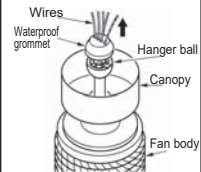

Fig.10
Step 6 : Assemble the waterproof grommet for the hanger ball. Be careful to ensure that the wires pass through the grommet. (Fig. 10)